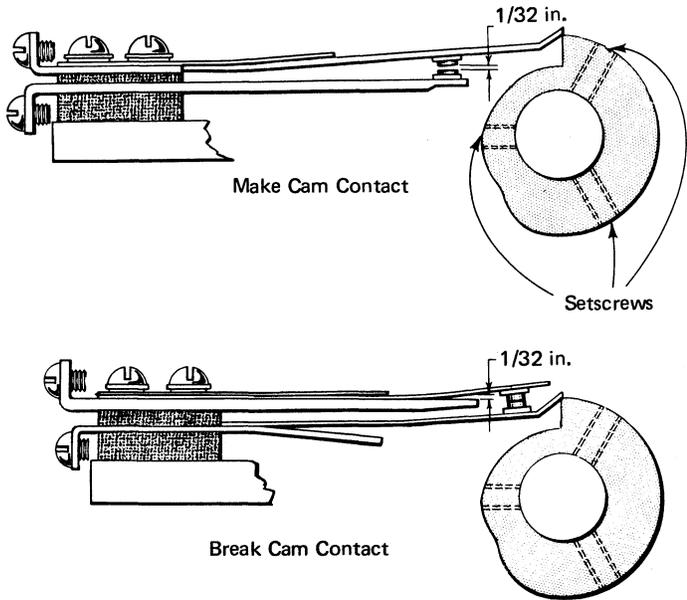

Figure 3-23. Spring Strap Cam Contact Adjustments
2. Adjust the make contact by forming the nonoperating strap for an air gap of 1/32 inch between points when the operating strap is on the high dwell of the cam (Figure 3-23). The operating strap should have sufficient tension to insure good contact when the points are closed.
3. Adjust the break contact by forming the nonoperating contact support for 1/32 inch rise of the nonoperating strap off its support when the operating strap is on the high dwell of the cam (Figure 3-23). When the operating strap drops off the high dwell of the cam, there should be at least 1/6 inch air gap between the points. Do not put too much tension on the operating strap. Too much tension causes noisy operation and excessive wear on the cams.
4. Adjust the timing of the contacts by loosening the cam setscrews and shifting the cam on the shaft (Figure 3-23). The timing of the individual contact is obtained from the timing chart which accompanies the machine. Make contacts are timed for the making point (the point at which the contact strap falls off the high dwell of the cam). Break contacts are timed for the proper breaking point according to the timing chart (the point at which the operating strap falls off the high dwell of the cam).